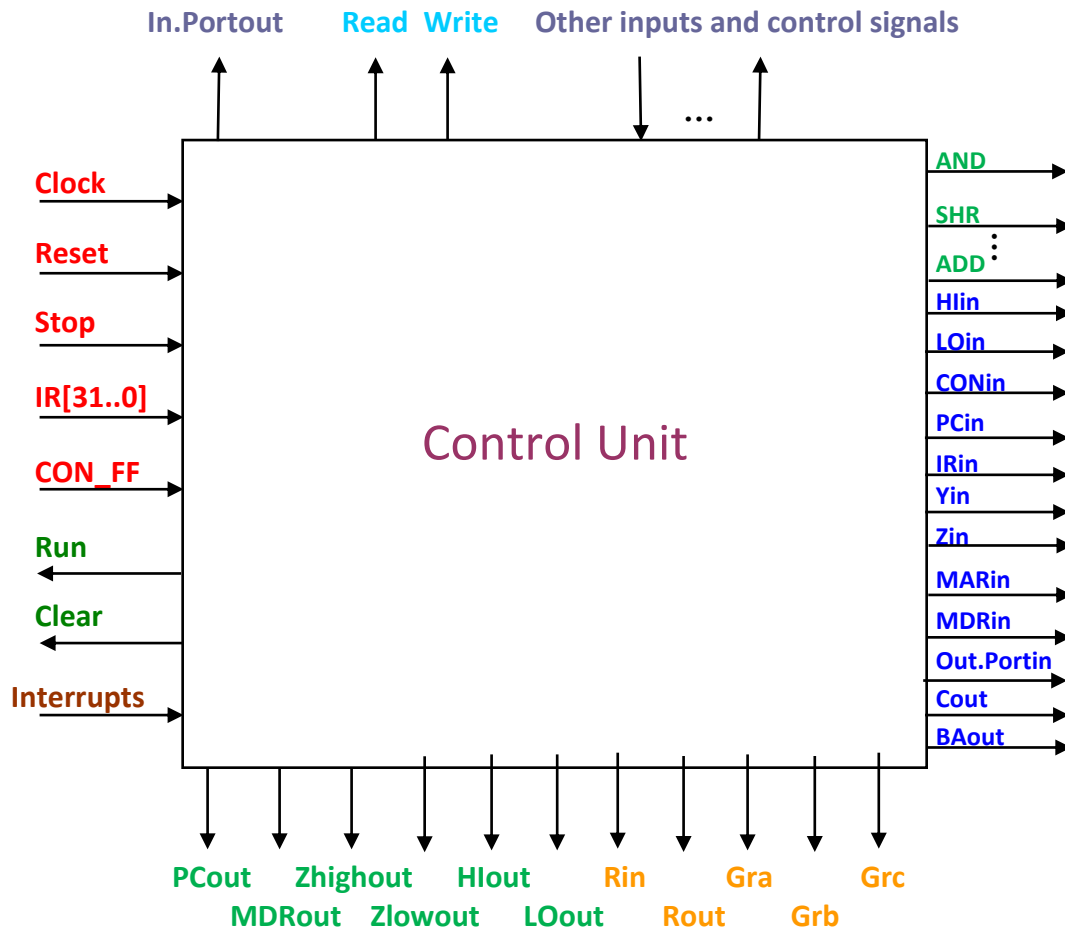

Figure 5: Block diagram of the Control Unit
discussed in the CPU Specification document, the ALU supports the addition, subtraction, multiplication, division, shift right, shift right arithmetic, shift left, rotate right, rotate left, logical AND, Logical OR, negate, and NOT operations. The control signals to the ALU (generated by the Control Unit in Phase 3, as shown in Figure 5) will enforce the required operation. These control signals include *ADD*, *SUB*, *MUL*, *DIV*, *SHR*, *SHRA*, *SHL*, *ROR*, *ROL*, *AND*, *OR*, *NEG*, and *NOT* control signals, among others. Note that in Phase 1 and Phase 2, you simulate such control signals. The Z register holds the result of the operation in ALU and will be able to drive the Bus in the next clock cycle when the bus is free. The Z register is 64-bit long to hold the result of a multiplication (product) or a division (remainder in the higher byte, and quotient in the lower byte) operation temporarily before loading the *HI* and *LO* registers. You may need a multiplexer between the Y register and the A input of the ALU for any other potential input. You may also need to include a simple circuitry (such as a multiplexer) between the ALU output C and the Z register. Depending on the current instruction in the Instruction Register, *IR*, this logic selects the output of one of the ALU units to drive the Z register.
**2.2 Control Unit:** The Control unit is to be designed in Phase 3. However, a block diagram is provided in Figure 5 for a better understanding of the Datapath. The Control Unit is at the heart of the processor. It accepts as inputs those signals that are needed to operate the processor and provides as outputs all the control signals necessary to execute the instructions. The outputs from the Control Unit are the control signals that we use to generate **Control Sequences** for the instructions of the Mini SRC.